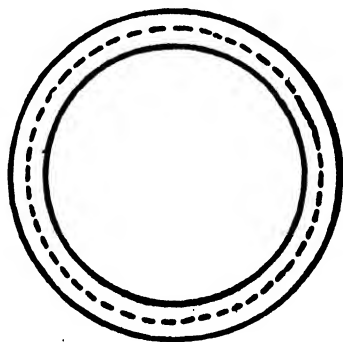

FIG. 12
4. The length required for rings or bands may be calculated by taking three times the inside diameter plus four times the thickness of the stock, or by taking three and one-seventh times the diameter of the center line plus one-half the diameter of the stock. Fig. 12.